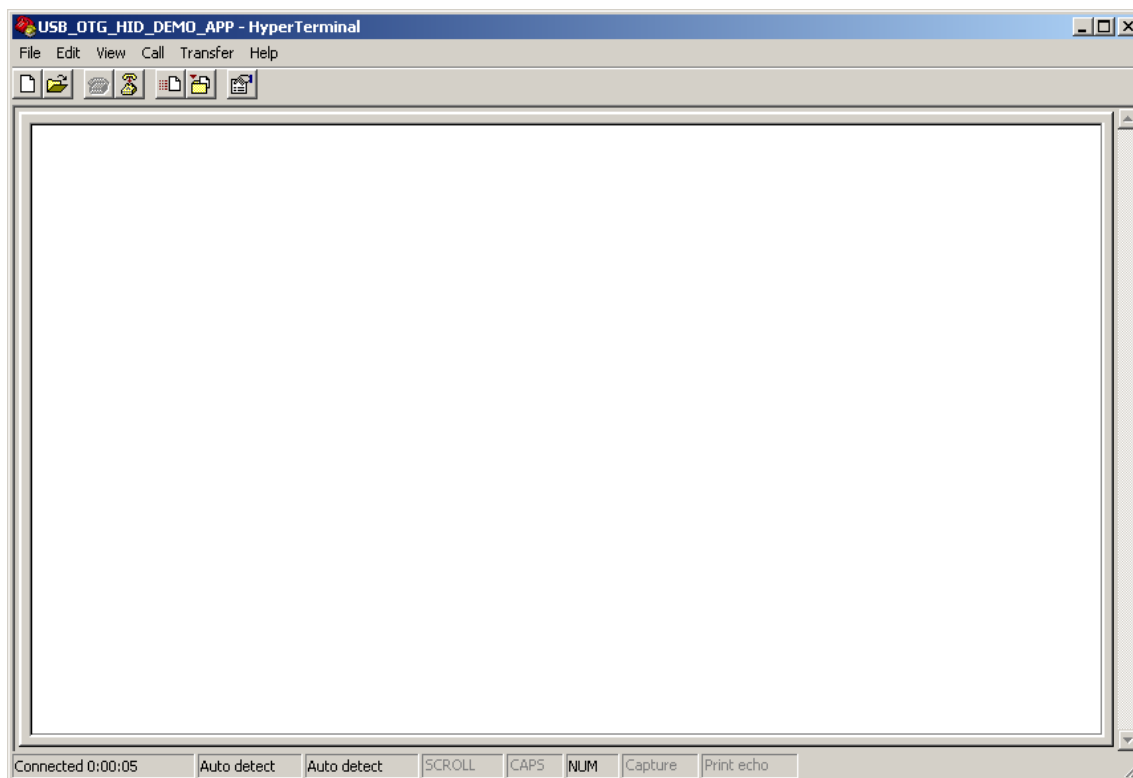

Figure A-12. HyperTerminal configured
5. HyperTerminal is now configured and is shown in Figure A-12.